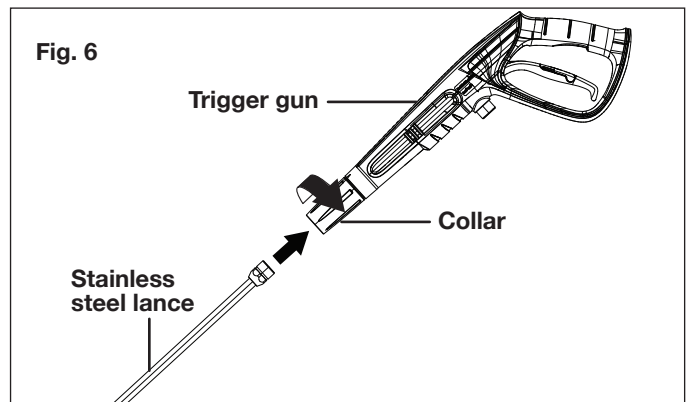

Fig. 6
6. Fit the stainless steel lance into the trigger gun and rotate the collar until the two parts are completely locked (Fig. 6).